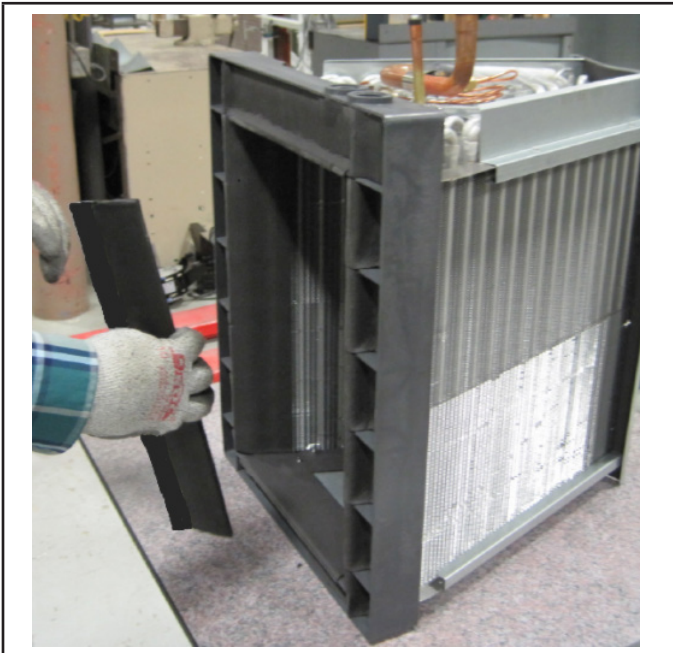

FIGURE 10.
- 4 - Working from the bottom of the coil, install provided insulated drain pan drip shields (part C, two each). The shields slide into place between the inner coil slab and the drain pan (FIGURE 10 and FIGURE 12).